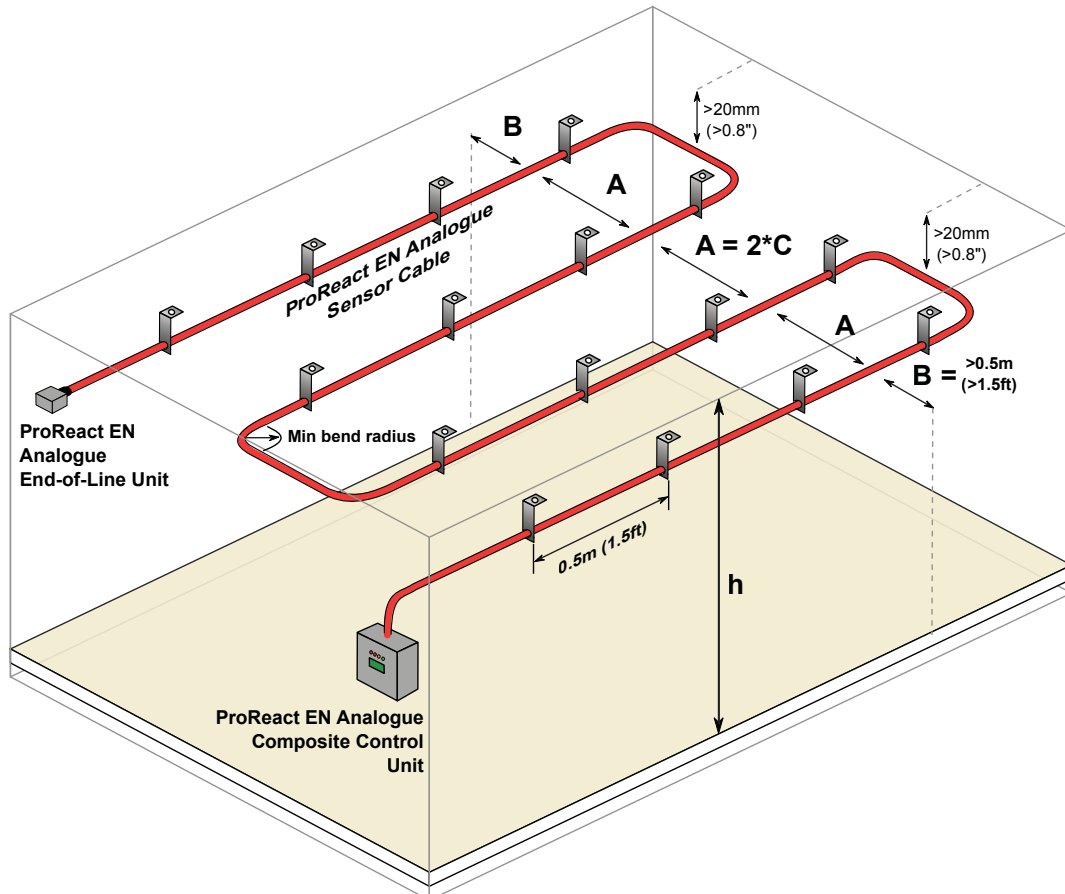

Figure 8: Area protection with the ProReact EN Analogue LHD System
-  In any case, the sensor cable should not be mounted closer than 0.5m to any walls, equipment or stored goods (shown as B in Figure 8).
Therefore the distance between two parallel runs of sensor cable (shown as A in Figure 8 below) must not be greater than the distance shown in Table 4. For Class A1I, the maximum ceiling height (h) is 9m (see DIN VDE 0833-2 section 6.1.5.3).